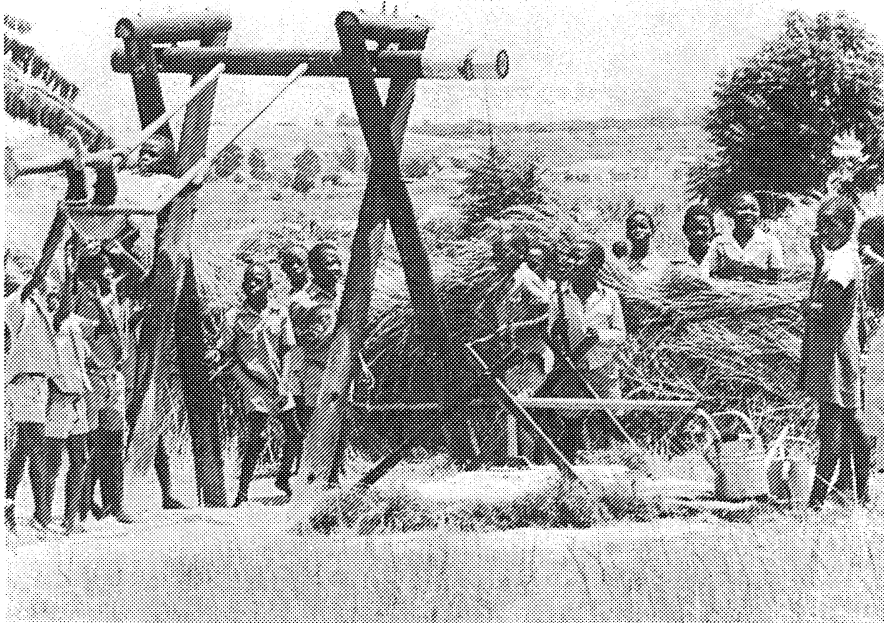

Figure 9 This children's swing in Zimbabwe also operates a water pump.
*Acknowledgements* Figures 1 and 4 supplied by UNICEF; Figure 9 supplied by World Health Organisation; Figures 2, 5, 6, 7, 8, 10, 11 and 12 reproduced by permission from *Water for Tanzania*, PLON, The Netherlands.